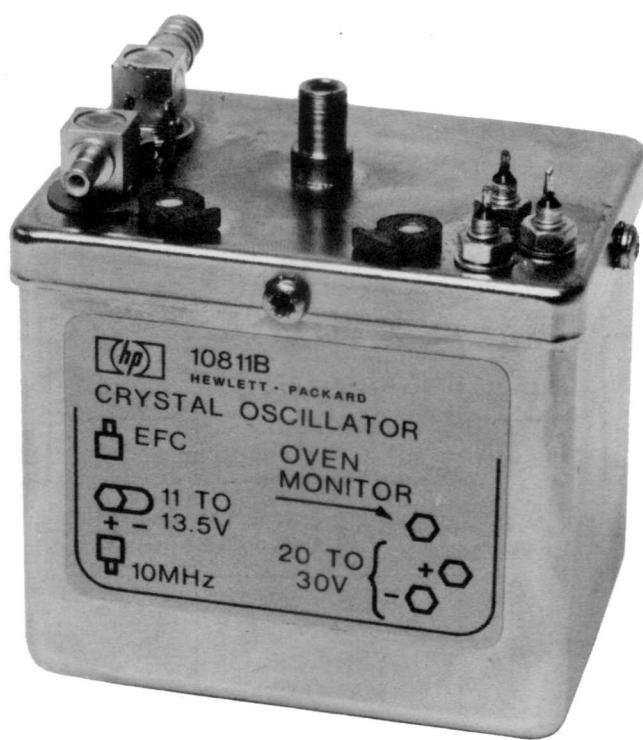

Figure 1-1. 10811A and 10811B Oscillators
- 1-2. This manual provides information pertaining to the installation, operation, testing, adjustment, and maintenance of the HP Model 10811A/B Quartz Crystal Oscillator. Figure 1-1 shows the 10811A and 10811B.
- 2-4. Inspect the shipping container for damage. If the shipping container or cushioning material is damaged, it should be kept until the contents of the shipment have been checked for completeness and the oscillator has been checked mechanically and electrically. The contents of the shipment should be as shown in Figure 1-1; procedures for checking electrical performance are given in Section IV. If the contents are incomplete or if there is mechanical damage or defect, or if the oscillator does not pass the Performance Tests, notify the nearest Hewlett-Packard office. If the shipping container is damaged, or the cushioning material shows signs of stress, notify the carrier as well as the Hewlett-Packard office. Keep the shipping materials for the carrier's inspection. The HP office will arrange for repair or replacement at HP option without waiting for the claim settlement.